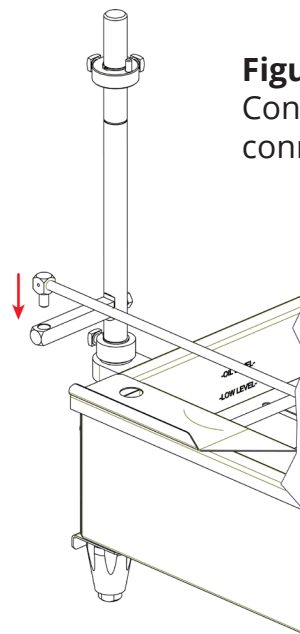

Figure 4
5. Place the end of the swing connecting rod into the hole on the throw arm of the swing column. See Figure 4.